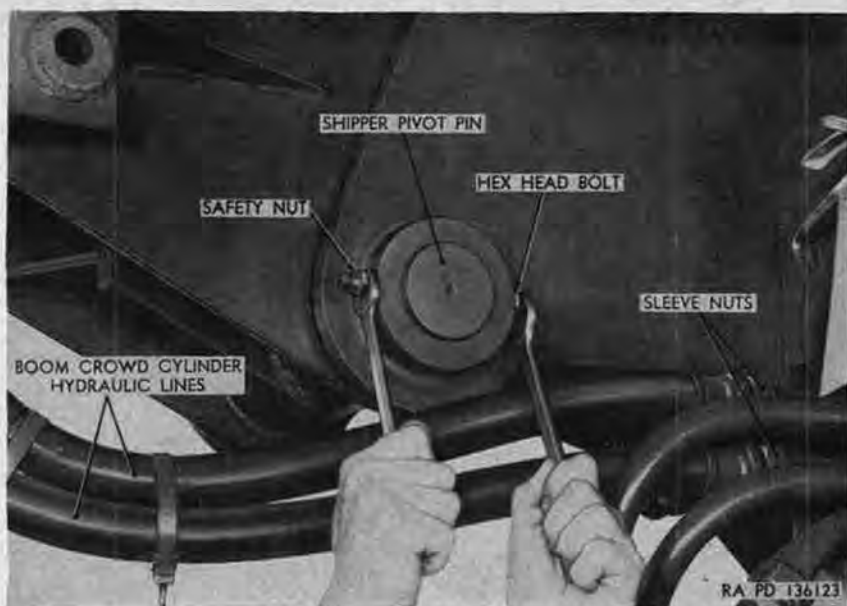

Figure 290. View of right end of shipper pivot pin installed in shipper support.
- (10) *Boom and shipper assembly.* The boom and shipper assembly consists of the boom (fig. 81) and shipper, which are telescoping tubular steel members having a rectangular-shaped cross section, held together by the boom crowd cylinder ((12) below). The rear end of the shipper is pivoted on a pin (fig. 290) installed at the top rear of the shipper support, which permits raising and lowering the front end of the boom. Weight of the shipper and boom assembly is approximately 2,150 pounds. Although the boom and shipper assem-